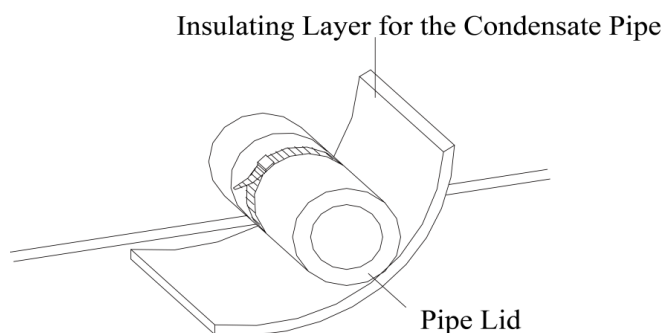

Fig.13 Thermal Insulation of the Condensate Pipe
a. The condensate pipe should keep a inclination angle of 5~10°, which can facilitate the drainage of the condensate water. And the joints of the condensate pipe should be insulated by the insulation material to prevent condensing(see Fig.13).